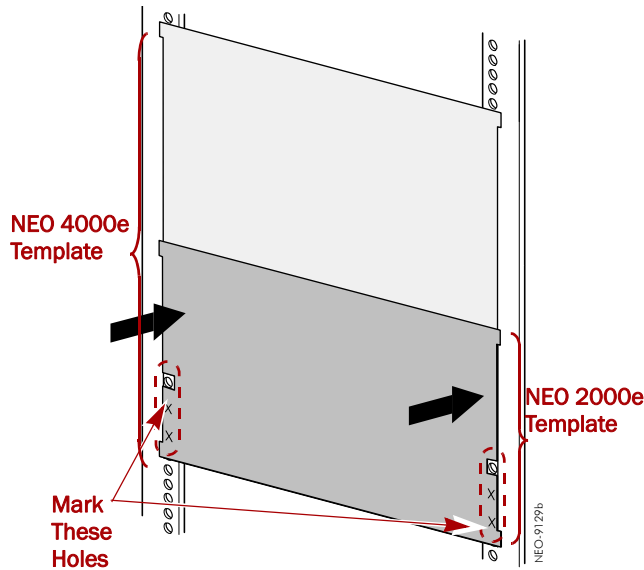

Figure 4. Using the NEO Templates
- Using the **template** (see Figure 4), mark the location of the mounting hardware on the RETMA rack rails: